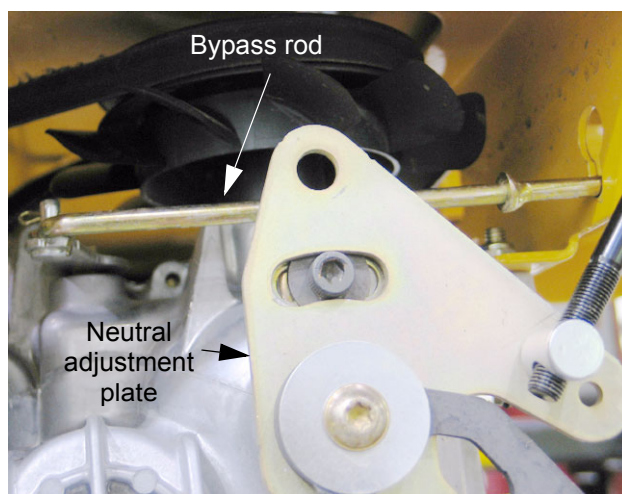

Figure 6.5
- 6.5. Remove the cotter pin securing the bypass rod to the transmission bypass arm. Remove the bypass rod. See Figure 6.5.